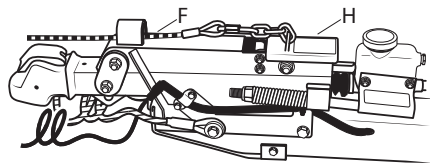

Figure 11
**⚠ NEVER** tow the AT unless the emergency brake pedal (H) is in the fully down position. (Figure 11) See decals also, for proper position of emergency brake pedal for towing. The emergency brake cable (F) attaches to the emergency brake pedal (H) on top of the hydraulic brake mechanism. (Figure 11) When the emergency brake cable is pulled forcefully, the emergency brake pedal will move upwards and lock, activating the AT brakes. The AT brakes will remain activated until the emergency brake pedal is reset to the fully down position. Call U-Haul at **1-800-GO-U-HAUL** if you need the emergency brake reset to down position.